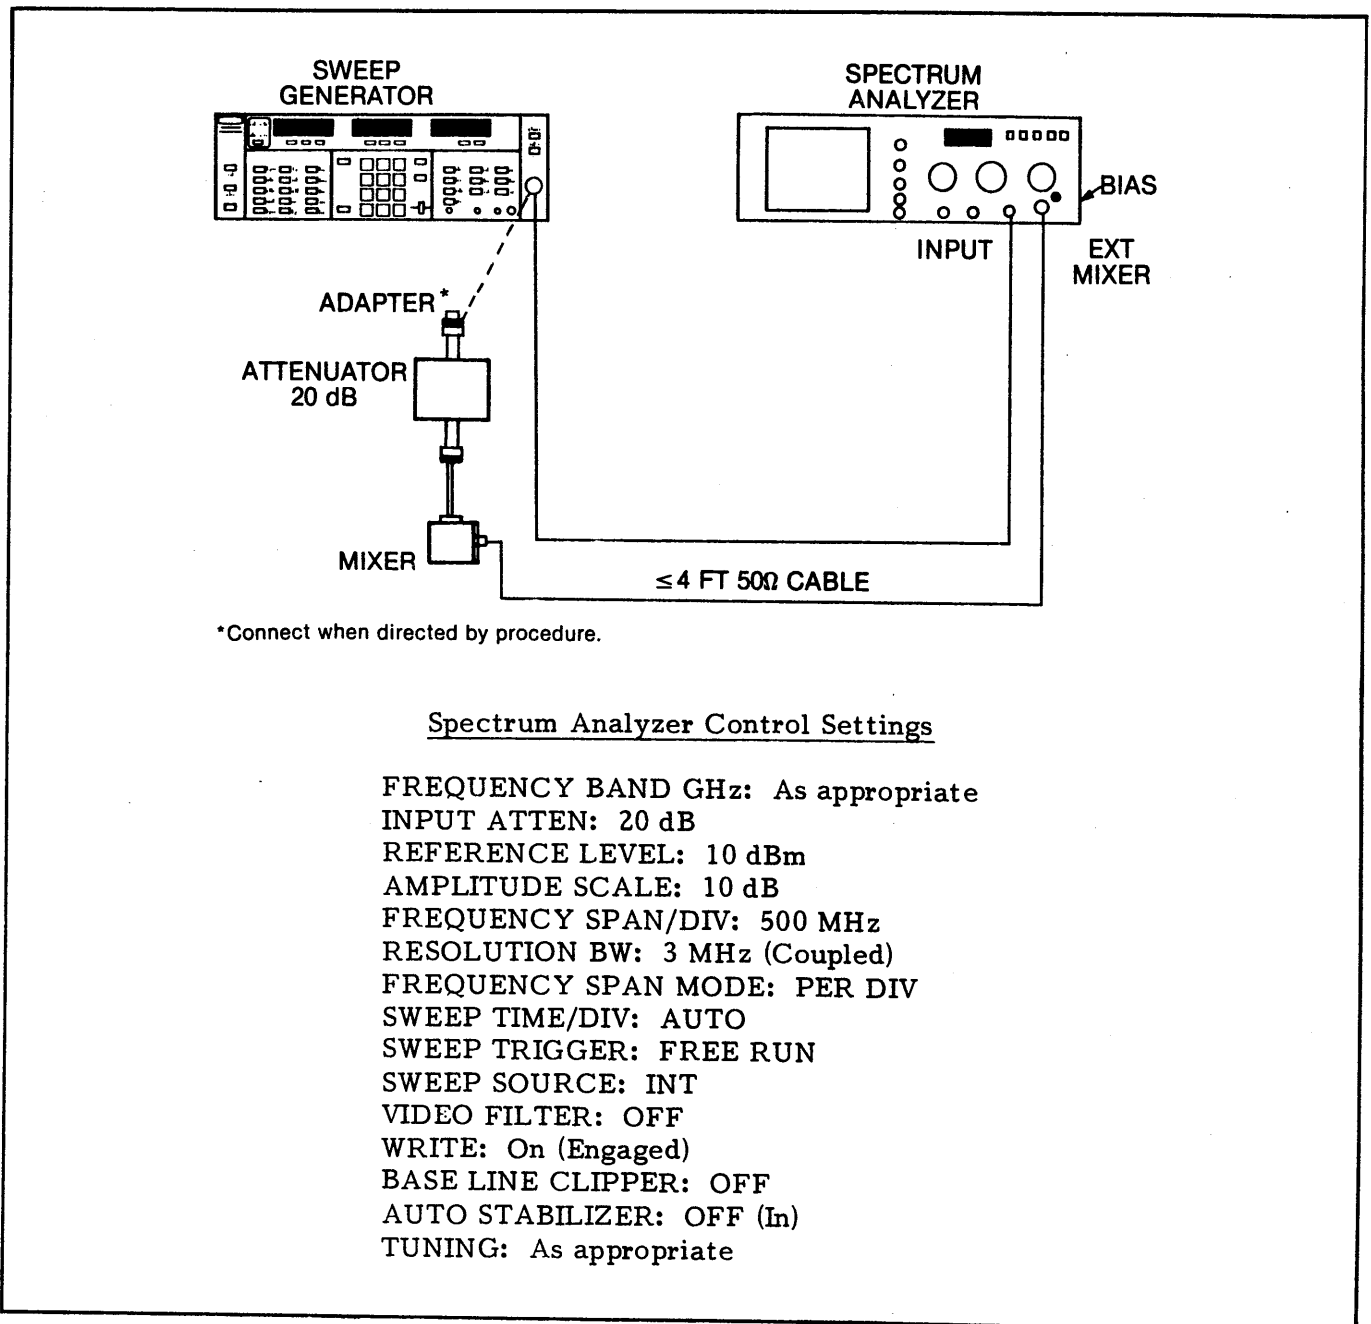

Figure 4-22. Test Equipment Setup for RF Output Tests, Models 6653A and 6659A
- 1. Connect test equipment as shown in Figure 4-22 and turn the equipment on.